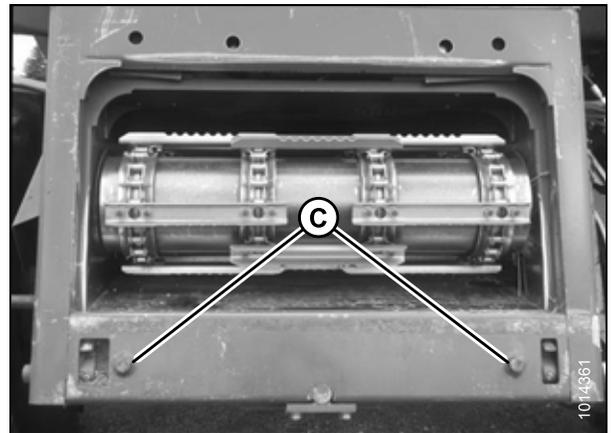

Figure 3.34: AGCO Group Alignment Pins
2. Start engine and slowly approach header until feeder house is directly under adapter top cross member (A) and alignment pins (C) on feeder house (shown in Figure 3.34, page 31) are aligned with holes (B) in adapter frame.